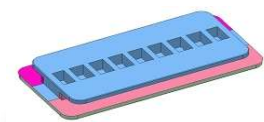

Figure 4 : Power Node Notch Cover
- A notch cover Figure 4 to easily feed through a Zip-Tie to affix the power node to fixtures side bars